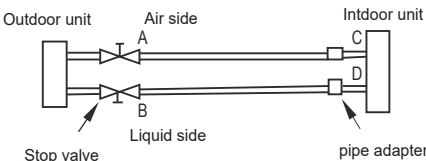
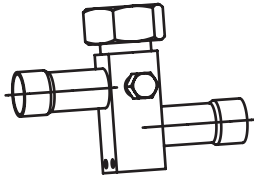

Fig.6-2
Fig. 6-3
- Use the refrigerant in the outdoor unit to expel air(see Fig.6-2 and Fig.6-3)
- Use refrigerant tank to expel air (see Fig. 6-2 and Fig. 6-3 )